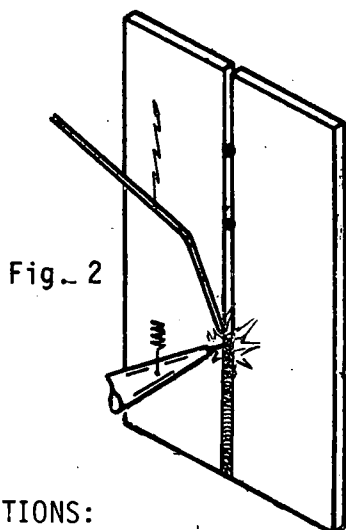

Fig. 2
- b) Oscillate the tip and the filler metal (fig. 2).